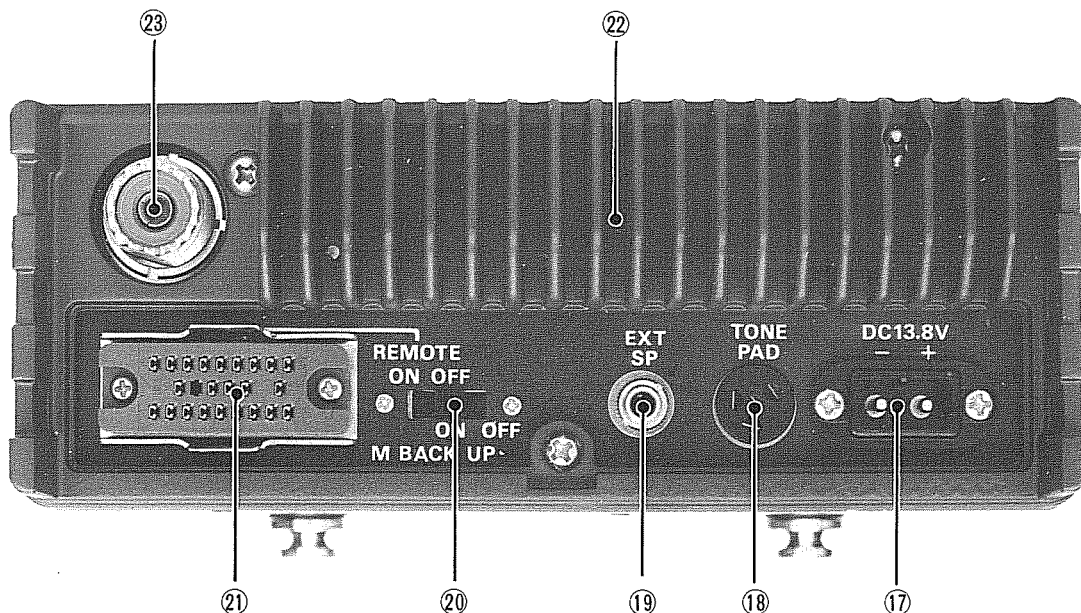

Fig.2-2 Rear Panel View
2.2 REAR PANEL (Refer to Fig. 2-2)